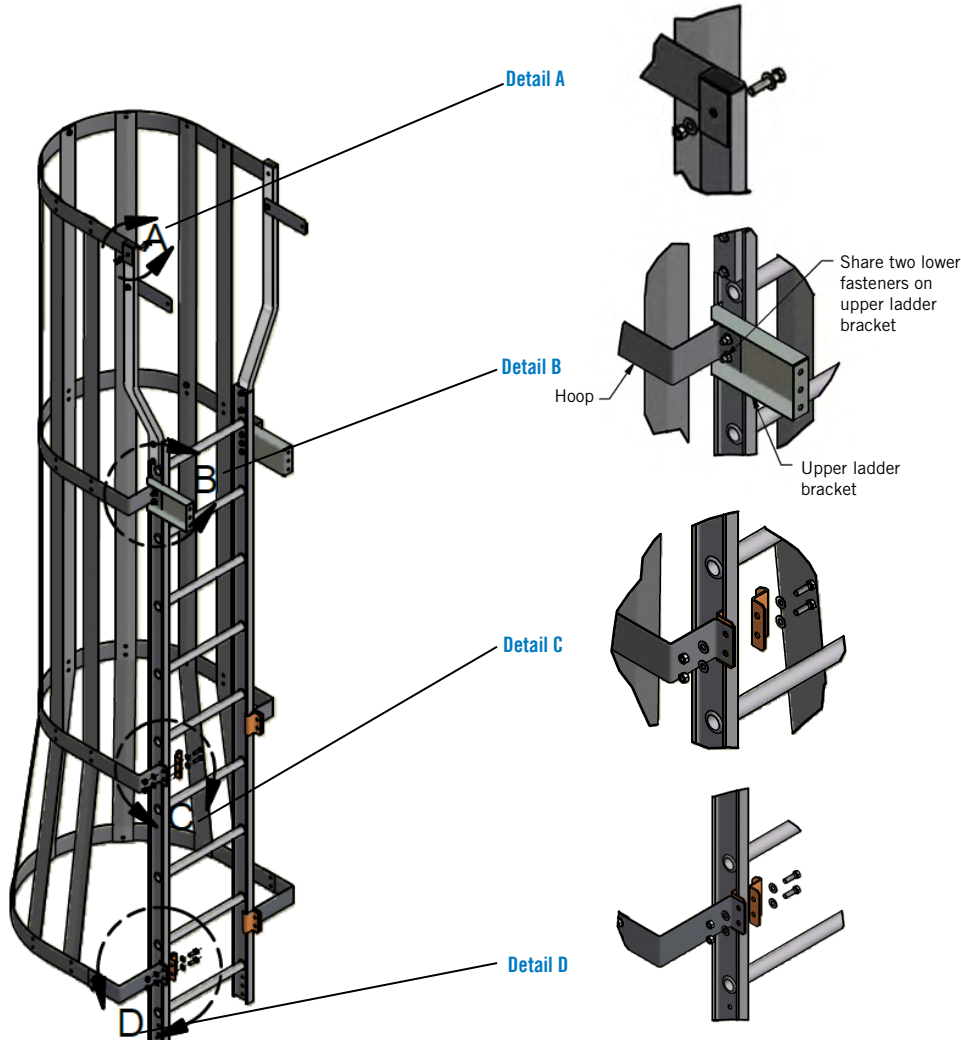

Figure 40. Safety Cage
2. Bolt the safety cage to the ladder using flatwashers and locknuts. Orient all fastener with bolt heads inside safety cage. See **Figure 40, Detail A through D** and refer to **Table 3** for the quantity of bolting locations for different safety cage heights.